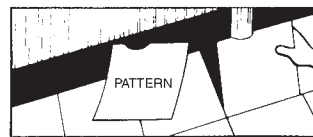

Figure 6 - Irregular cuts.
- **Irregular Shapes** - Make a pattern or template out of heavy paper or cardboard to fit to irregular shapes such as door trim, pipes, etc. (Figure 6). Trace the pattern onto the tile and cut